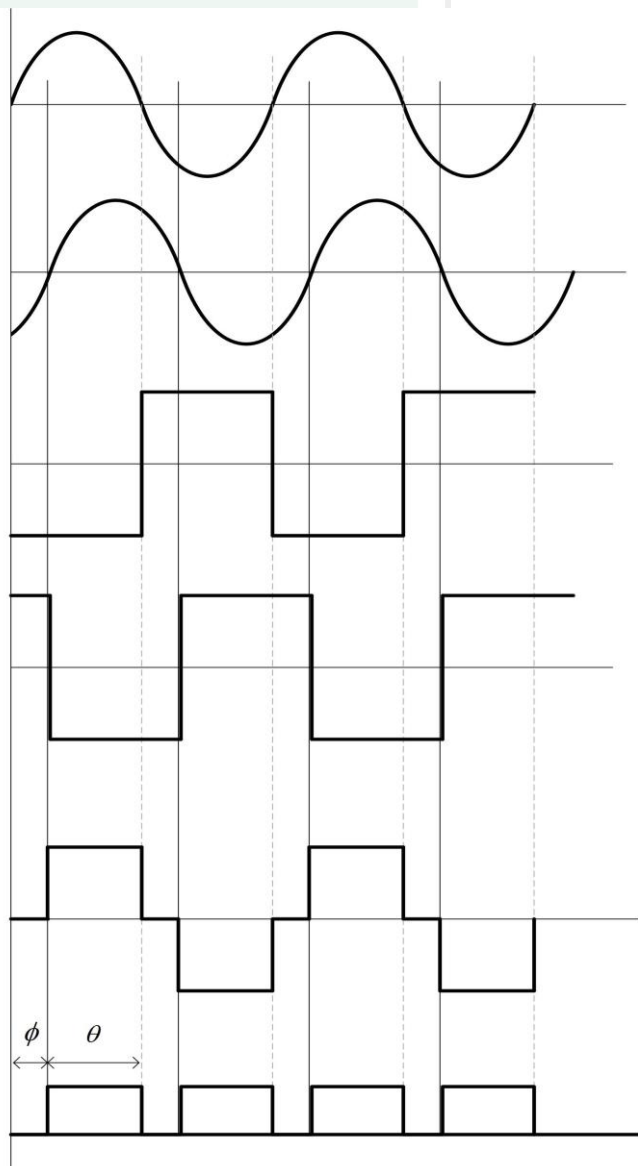

Figure 1: Waveforms at different point
3. Construct block 2 and observe the voltage waveform at C and D point using the two channels of the oscilloscope. Does the wave shape resemble the waveform in figure 1?
4. Construct block 3 and observe the voltage waveform at E point. Again observe does the wave shape resemble the waveform in figure1 or not.